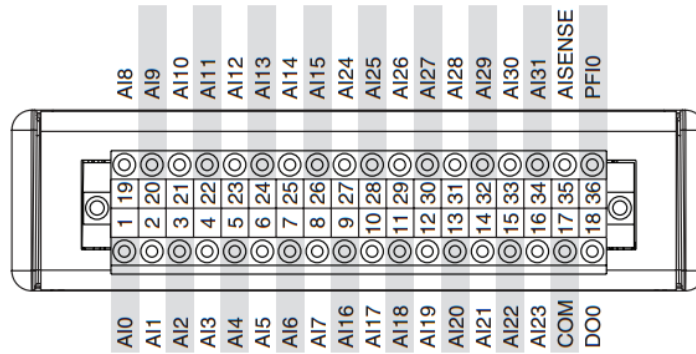

Figure 3 NI 9205 Analog Input Module Terminal and Pin Assignment
- viii) Connect the green wire from the string pot to the AI0 terminal as seen in Figure 3
- ix) Jump the common (black) cable to the AI8 terminal as seen in Figure 3